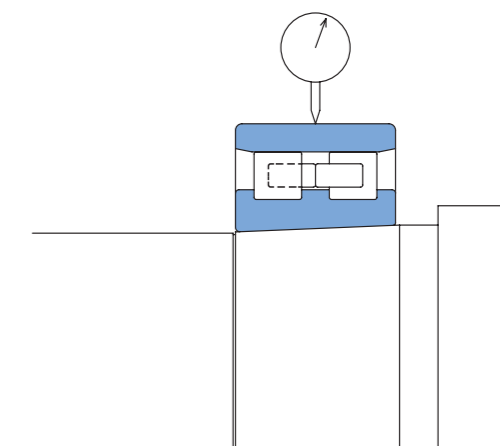

Figure 9.9 Radial Clearance Measurement
- Push the outer ring straight up 180° from its position of symmetry (directly below), and rotate it slightly left and right to take a reading of its maximum value (Figure 9.9).